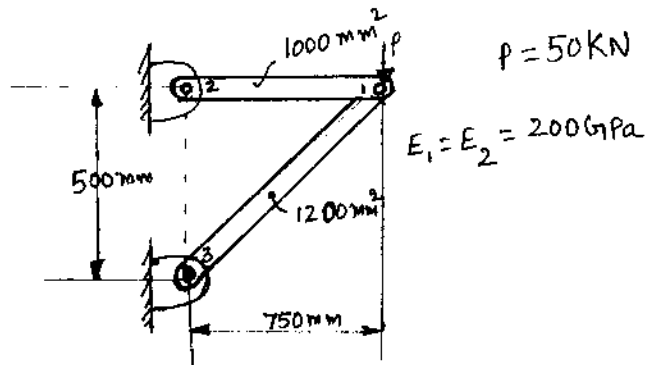

Fig.Q6(b)
- b. For the pin-jointed configuration shown in Fig.Q6(b), formulate the stiffness matrix. Also determine nodal displacement and stress in each element. (12 Marks)